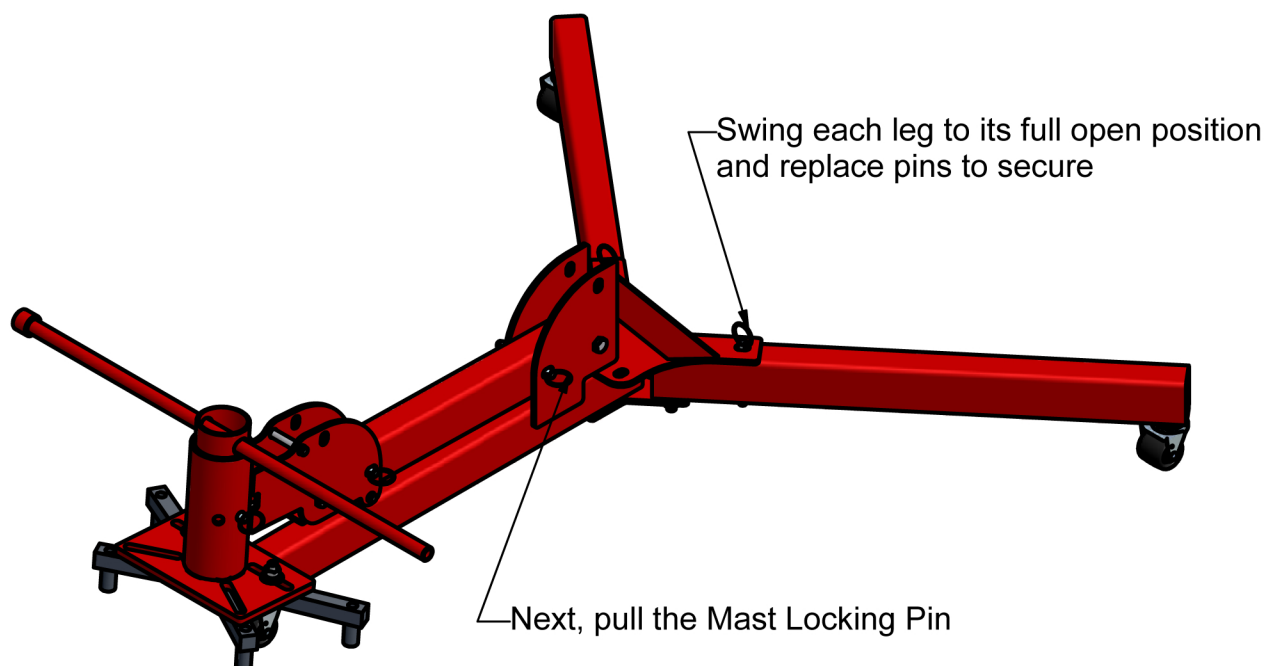

FIGURE 2
5. Remove Mast Locking Pin and tilt the Mast to its full upright position and reinstall the locking pin to secure (Fig 2 & 3).